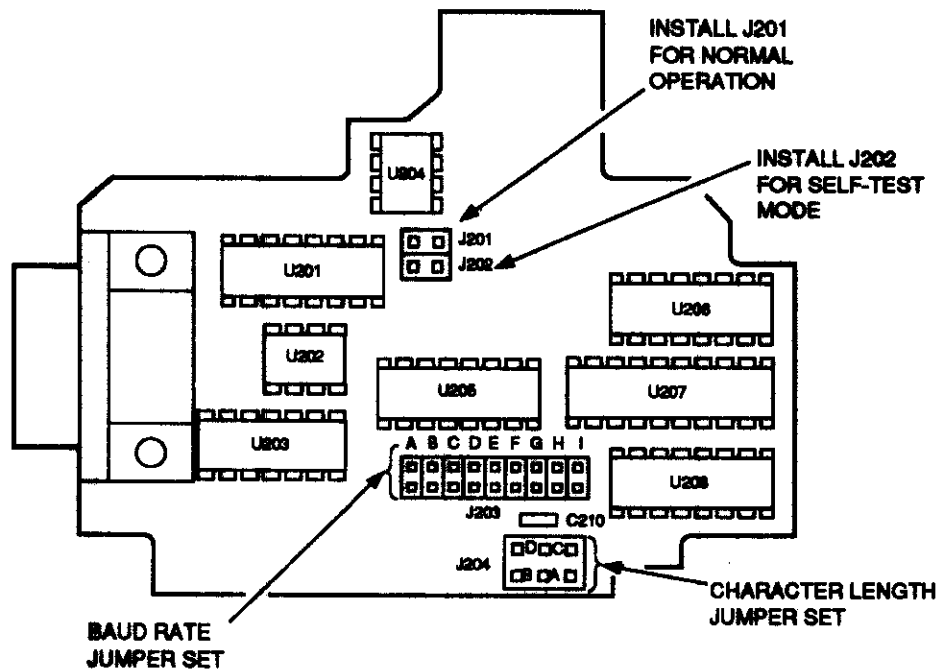
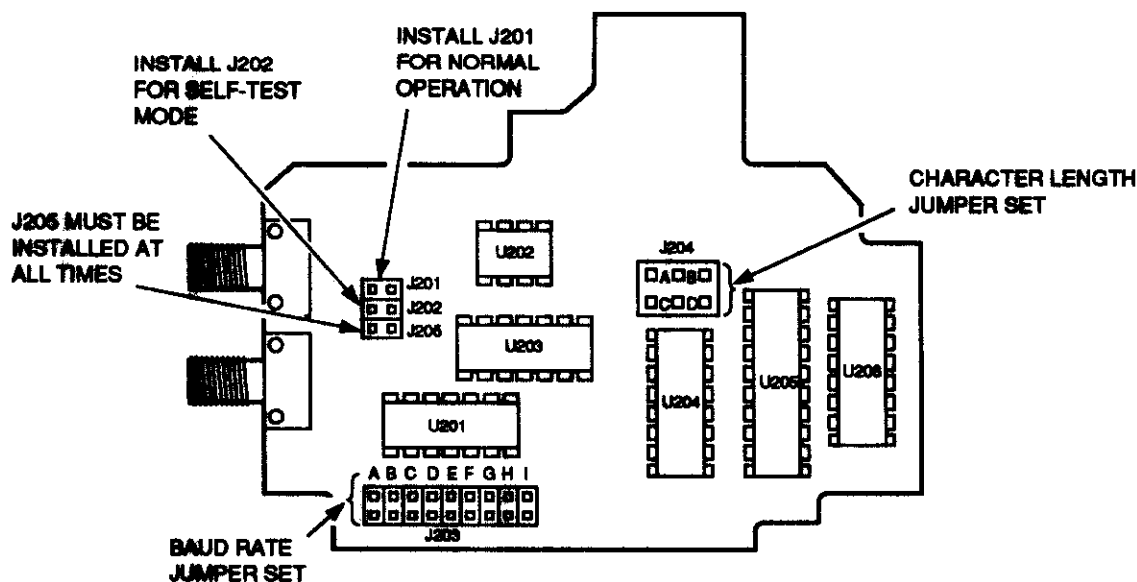

Figure 1. LCM Jumper Locations, PC2
Figure 2. LFM Jumper Locations, PC2
The available baud rates and the jumper required to select a specific baud rate are listed in table 2. The baud rate selected for the module must be the same as that of the system. The baud rate jumper set is J203 on PC2 of both the LCM and LFM (see figures 1 and 2).
Character Length. Two jumpers are required to select one of four available character lengths. The character length jumper set is J204 for both the LCM and LFM. Jumper set J204 contains jumpers A, B, C, and D. Table 3 lists the available character lengths and the jumpers required to select a specific character length. When setting these jumpers, contact must be made between the two pins on both sides of the letter designators shown in figures 1 and 2.
Figure 1 illustrates the jumper locations for the LCM (PC2). Both the RS-232C and RS-422 interface modules have the same physical jumper locations and designations. Figure 2 illustrates the jumper locations for the LFM (PC2).
An internal jumper (J202) must be installed for the LCM and LFM to generate a self-test signal for bench checking a single interface module. J201 must be moved to J202 during this type bench check. (See figures 1 and 2 for jumper locations.)
2. Move J201 to J202 (see figures 1 and 2).